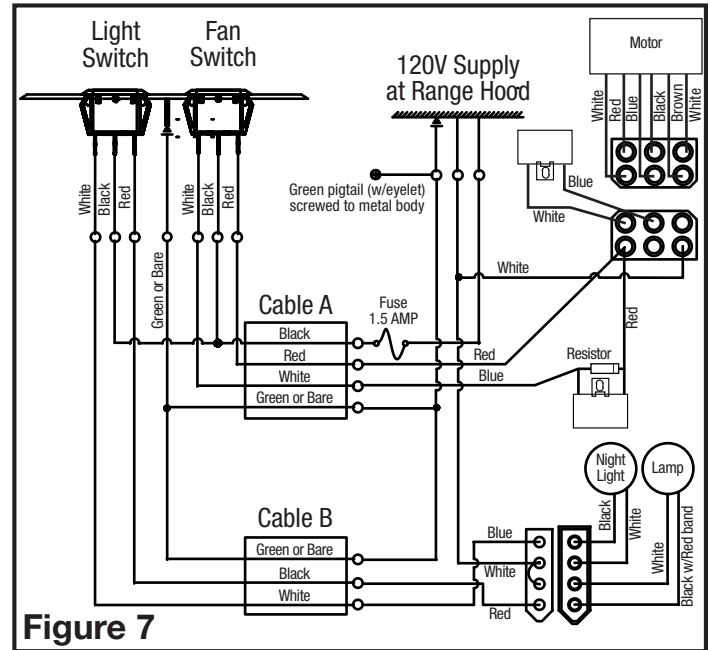

Figure 7
4. Connections at the range hood (**Figure 7**):
5. Connections at the switch box (**Figure 7**):